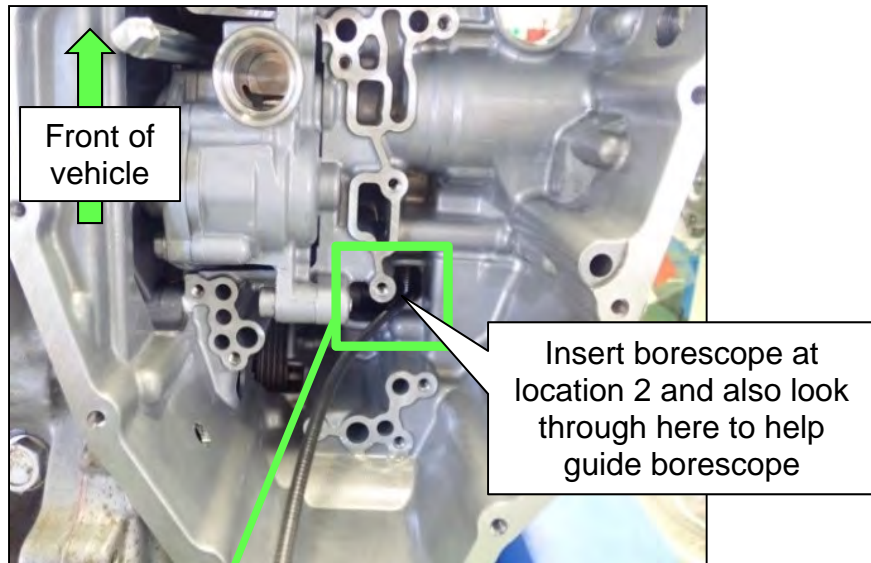

Figure 35
- ii. Insert the borescope in the second location, as shown in Figure 35.